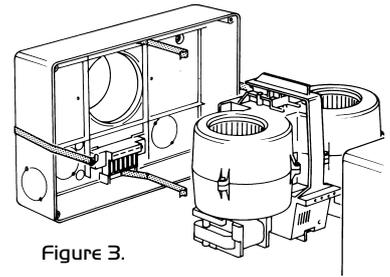

Figure 3.
1. Unpack the fan and separate the two halves of the unit by releasing the two clips on either side of the case. Release the two internal clips and remove the fan unit. (Figure 3). Remove the cover and filters which are packed separately and retain for